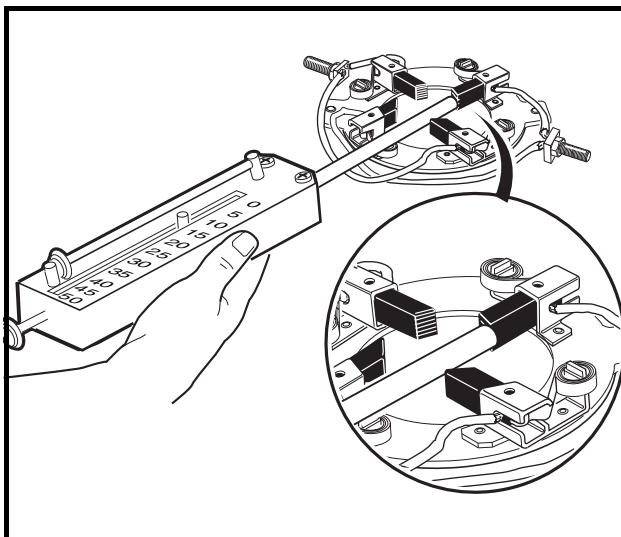

Figure 16-8 Brush Spring Tension Test
2. Inspect the brushes (13) for damage or excessive wear. Replace brushes if required. **See following NOTE.**
3. Inspect the brush springs (14) (**Figure 16-10, Page 16-8**). Replace springs that are discolored from heat (light gold or blue tinted). Replace springs which apply a force of less than 16 oz. (**Figure 16-8, Page 16-7**). **See following CAUTION and NOTE.**